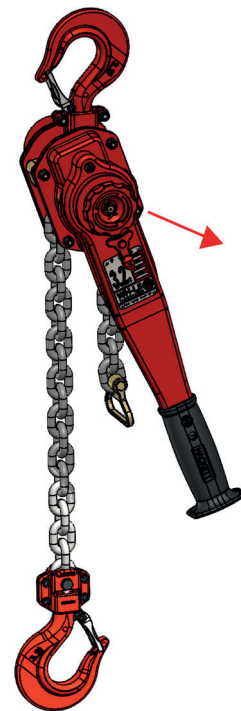

Figure 2
3. Pull the grip ring out as shown in *figure 2*, the unloaded load chain can now be adjusted to the required position.